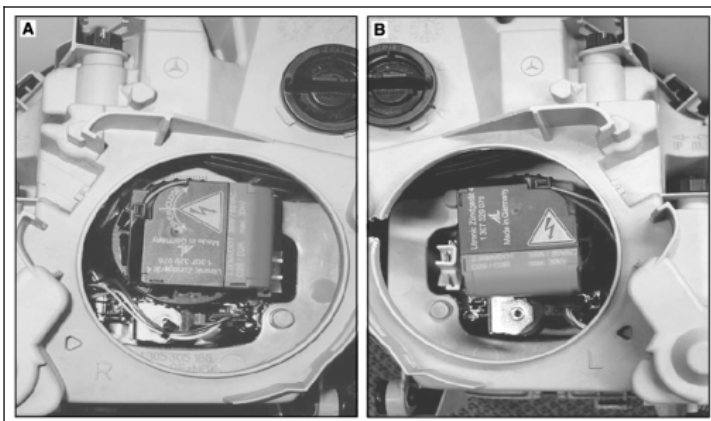

Figure 8
- 7.14 Push the new ignition module (A002 546 13 41) onto the collar until it snaps in place (Figure 8).
i Note: Ensure the correct installation position (Figure 8, right headlamp A, left headlamp B). Install new housing cover at rear of headlamp.